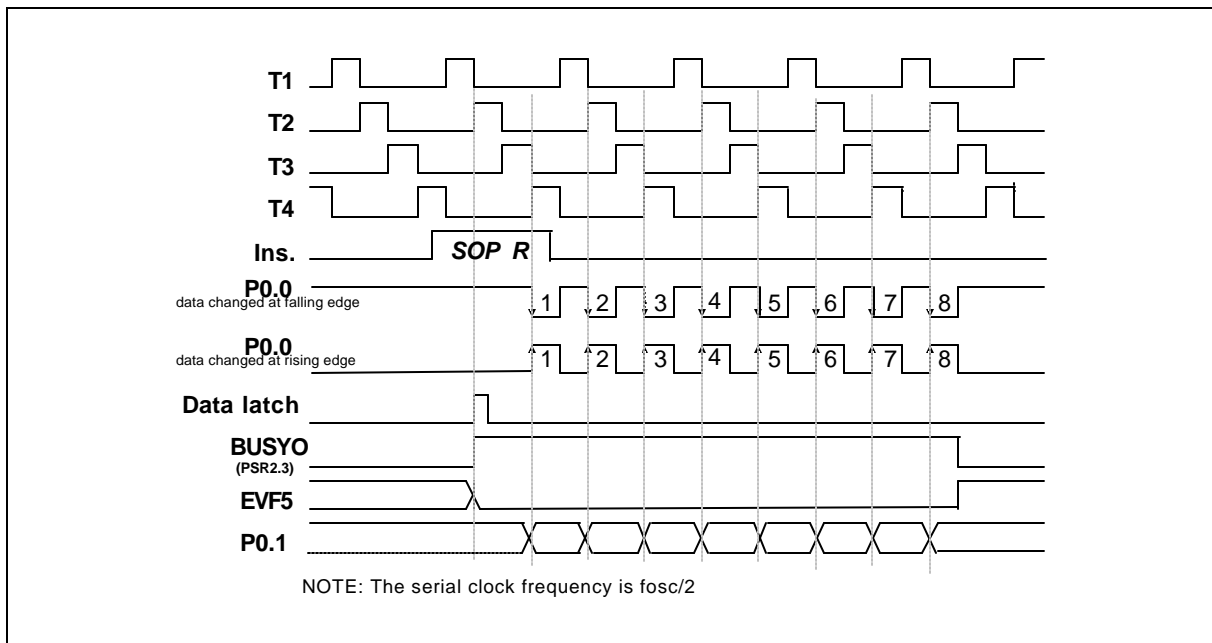

Figure 5-13 Timing of the Serial Output Function (SOP R)
- (2) When the SOP R instruction is executed, the data will be loaded to the serial output buffer (SOB), the low nibble data of SOB is from ACC register and the high nibble data is from RAM, and bit 3 of port status register 2 (PSR2) will be set to "1" (BUSYO = 1). Then the P0.0 pin will send out 8 clocks or accept 8 clocks from external device and the data in SOB will be sent out at the rising or falling edge of the P0.1 pin. After the 8 clocks have been sent, BUSYO will be reset to "0" and EVF.5 will be set to "1." At this time, if IEF.5 has been set (IEF.5 = 1), an interrupt is executed; if HEF.5 has been set (HEF.5 = 1), the hold state is terminated. Users can check the status of PSR2.3 (BUSYO) to know whether the serial output process is completed or not. If a serial output process is not completed, but the SOP R instruction is executed again, the data will be lost. The timing is shown in Figure 5-13.